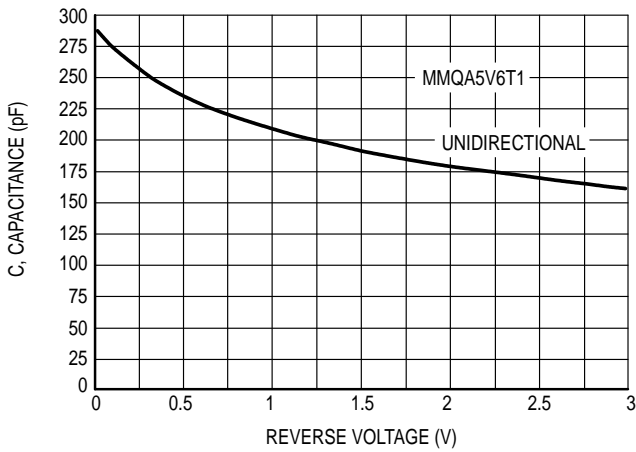
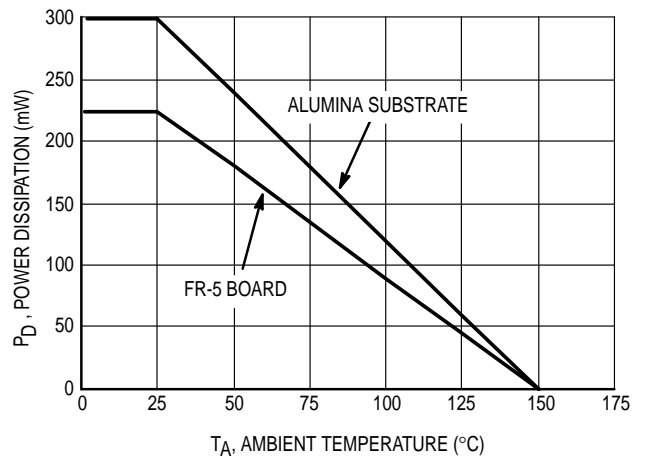

Figure 5. Typical Capacitance versus Reverse Voltage
Figure 6. Steady State Power Derating Curve
(3) V_Z measured at pulse test current I_T at an ambient temperature of 25°C .
(4) Surge current waveform per Figure 5 and derate per Figure 6.
(5) Z_{ZT} is measured by dividing the AC voltage drop across the device by the AC current supplied. The specified limits are $I_{Z(AC)} = 0.1 I_{Z(DC)}$, with AC frequency = 1 kHz.